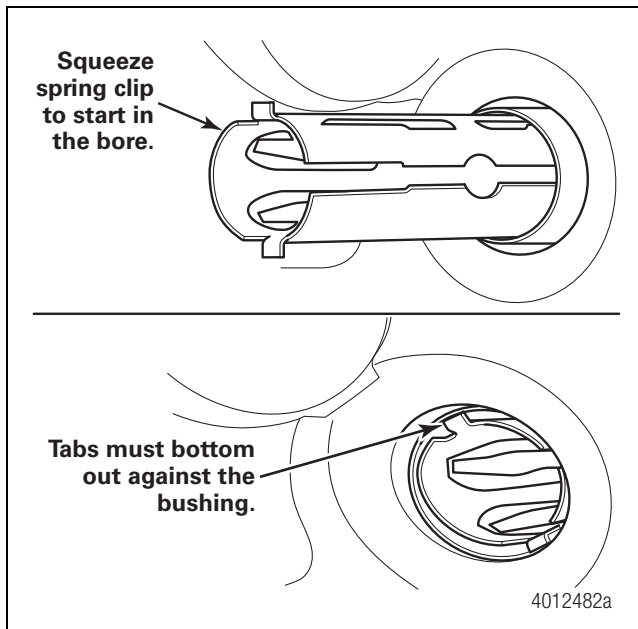

Figure 37
2. Squeeze the spring clip and install it into the ABS bushing from the inside face. Ensure that the tabs are bottomed out. Figure 37.